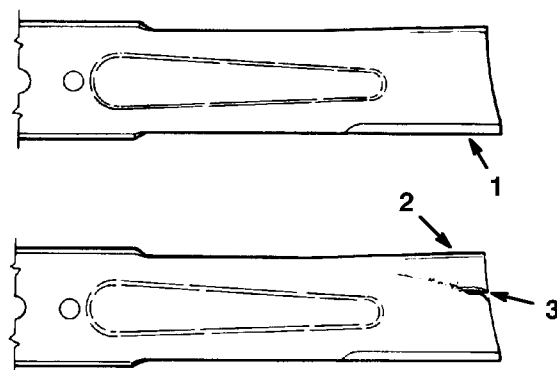

Figure 35
2. Inspect the cutting edges (Fig. 35). If the edges are not sharp or have nicks, remove the blade(s) and sharpen them; refer to Sharpening the Blade(s), page 34.
3. Inspect the blade(s), especially the curved area (Fig. 35). If you notice any damage, wear, or a slot forming in this area (Fig. 35), immediately install a new blade.